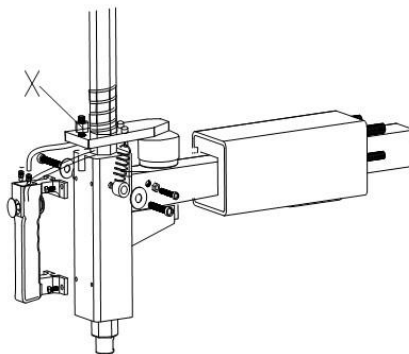

Fig 21
**Note:** If Vertical Arm not be locked or not meet the requirement that 2-3mm from the bottom of Mounting head/demounting head to rim, please adjust Hexagonal Locking Plate, refer to Fig 21 and adjust the (X).
2. Loosen the valve mufflers (A) which belong to Jaws open and close Pedal and Bead Breaker Pedal;